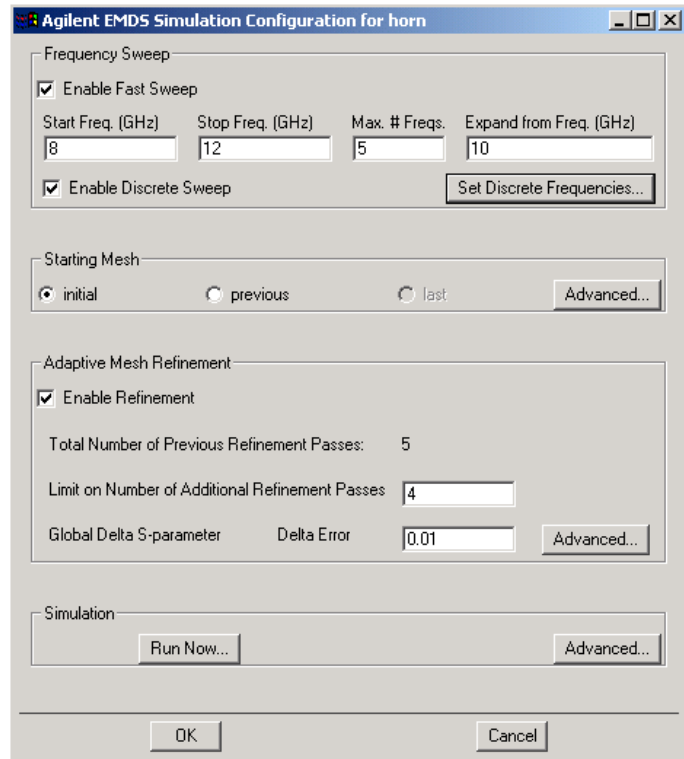

Figure 46 Solve Setup for Horn Antenna
- 4 Enter a start frequency of **8** and a stop frequency of **12**. Set Max. # Freqs. to **5** and Expand from Freq. (GHz) to **10**. Refer to Figure 46 on page 134.